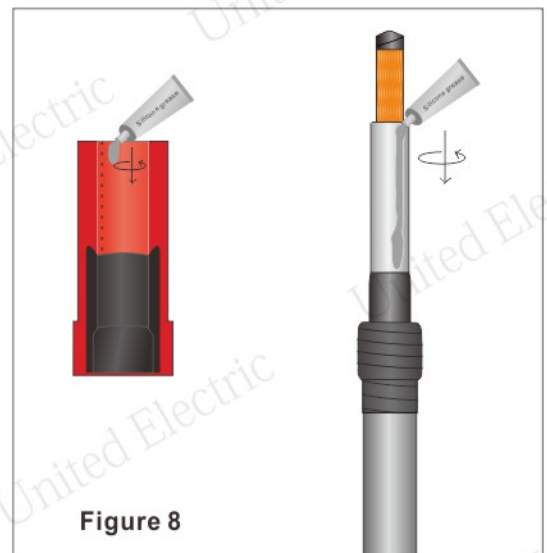

Figure 8
- Coat silicone grease onto the inner surface of the stress cone where mark with the broken line as shown in fig.8.